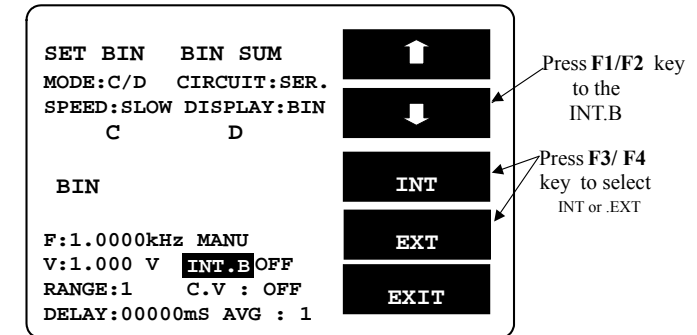

Figure 8-8
- Press F3 or F4 key to select INT or ENT shown as Figure 8-8 below. For further details, please refer to 4-5-1.